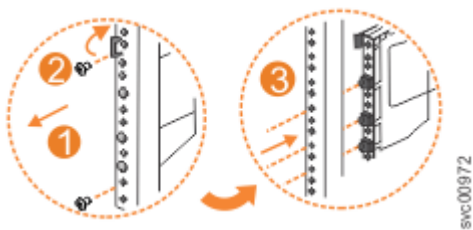

Figure 86. Remove the rail assembly from the front frame bracket
1. Remove the two screws that attach the outer rail section to the front bracket assembly, as shown in Figure 86 on page 150.
2. Remove the rail section by pulling it away from the front bracket, as shown in Figure 86 on page 150.